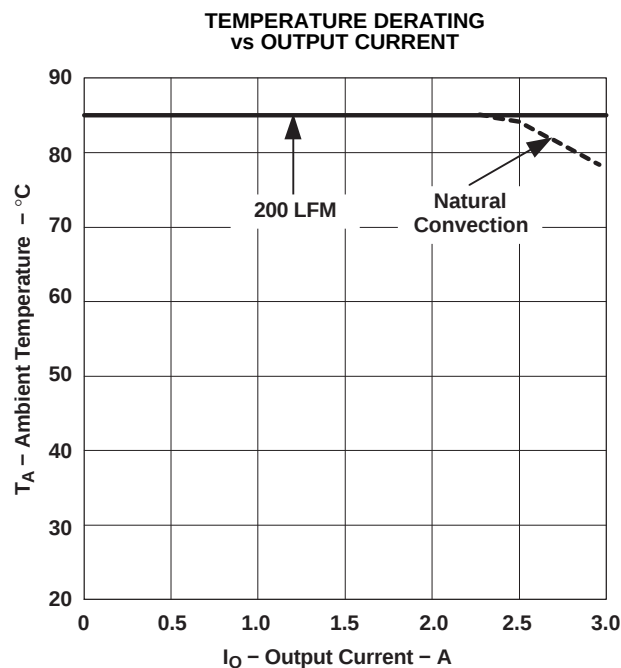

Figure 4.
- (2) The temperature derating curves represent operating conditions at which internal components are at or below manufacturer's maximum rated operating temperature. Derating limits apply to modules soldered directly to a 100-mm $\times$ 100-mm, double-sided PCB with 2 oz. copper. For surface mount packages, multiple vias (plated through holes) are required to add thermal paths around the power pins. Please refer to the mechanical specification for more information. Applies to Figure 4.